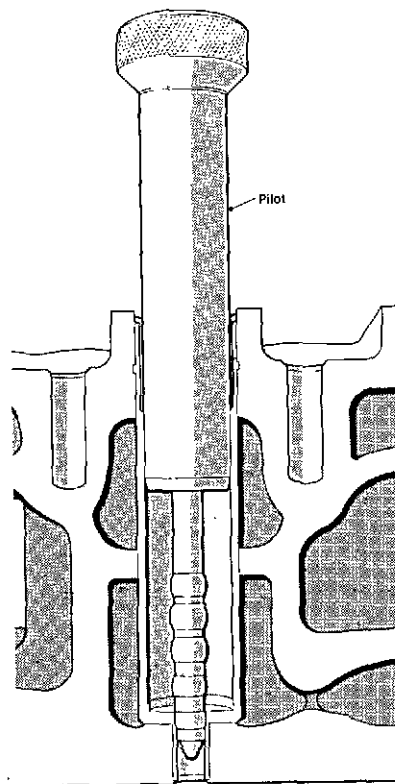

Fig. 14 Expanding injector sleeve nozzle
- 62 Smear the 'Ballizing' section of the tool with grease and slide the tool into the injector sleeve (fig. 14). Slowly press the tool down until the pilot reaches the injector seating face. Remove the 'Ballizing' section of the tool from beneath the flame face. The pilot section may be withdrawn from the top.